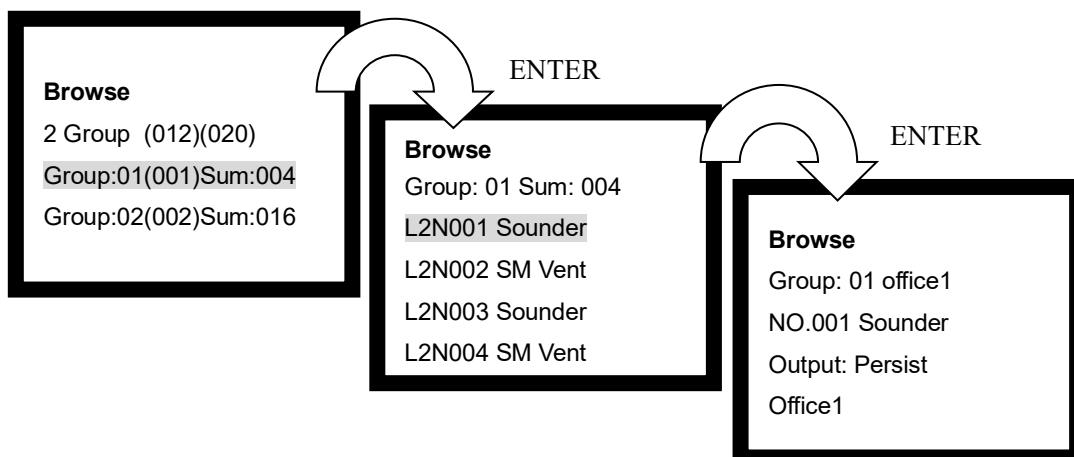

Fig. 6-6
- 3 Zone (008)(004) // 3 zones in total, 8 addressable devices on Loop 1, and 4 on Loop 2
- Zone:01(001)Sum:004 // Zone 01, (001) is the zone number with starting zone added, total number of devices is 4.
- ✧ Entering number 3 to choose "3. Group Devices" will enter the screen for browsing devices by group, as shown in Fig. 6-6.